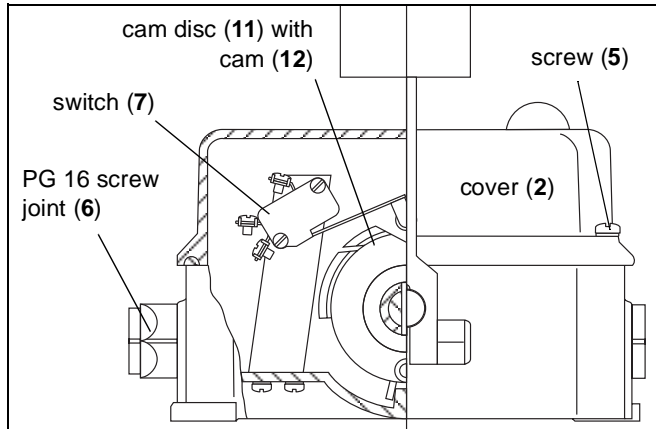

Fig. 5-9: Adjusting the switching points – breaking out the cam
2. Open the cover (2) of the belt misalignment switch by loosening both screws (5) (see Fig. 5-9).
3. Adjust the switching point "early warning" (see Figs. 5-9 and 5-10): adjustment range: 5° to 15°
- a. Loosen the screws (15) in the cam disc (11).
- b. Adjust the switching point "early warning" by turning the cam disc (11).
- c. Retighten the screws (15).